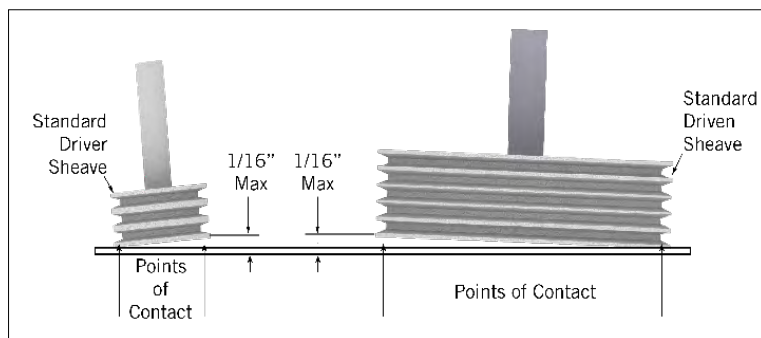
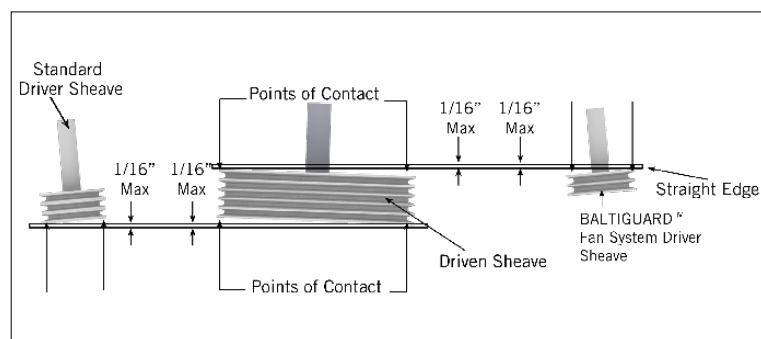

Figure 6a. Standard Drive Alignment
Figure 6b. BALTI^{GUARD}™ Fan System Drive Alignment
- Place a straight edge across the driver and the driven sheaves as shown in **Figure 6a** for standard drives and in **Figure 6b** for the BALTI^{GUARD}™ Fan System.